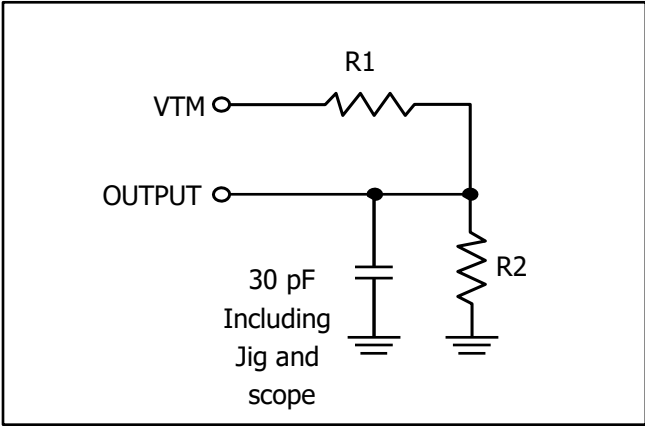

Figure 1
| Output Load                                 | See Figures 1 and 2            | See Figures 1 and 2            |
- 1. Test conditions and output loading are specified in the AC Test Conditions and AC Test Loads (Figure 1) on page 5.
1. Test conditions and output loading are specified in the AC Test Conditions and AC Test Loads (Figure 1) on page 5.